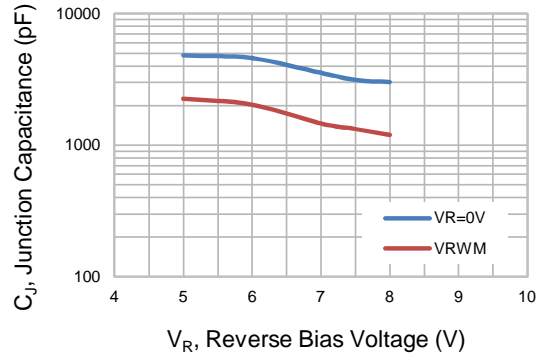
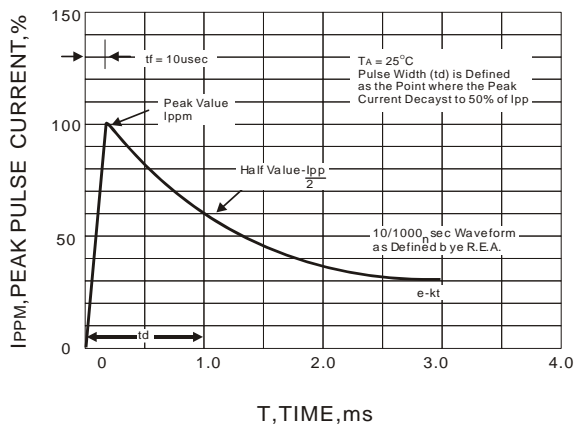

Fig.2 TYPICAL JUNCTION CAPACITANCE
Fig.3 PULSE WAVEFORM
1. Non-repetitive current pulse, per Fig.3 and derated above T_A = 25 °C per Fig. 2.